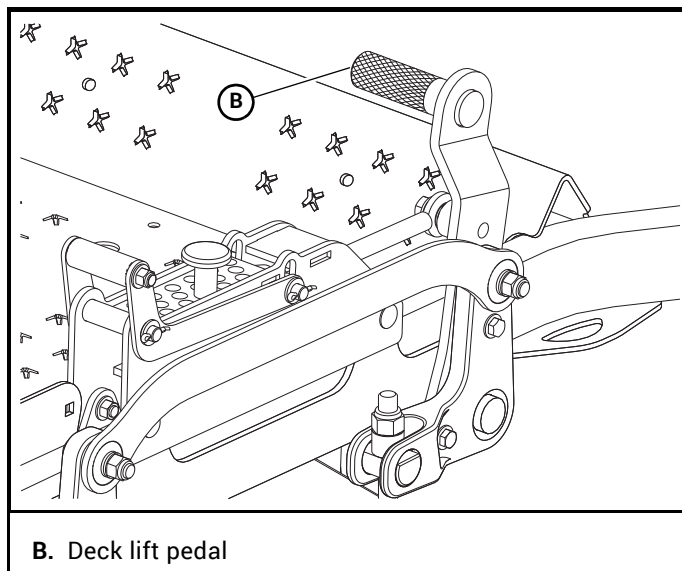

Figure 3-6
- B. **Deck lift pedal (Figure 3-6)** – the deck lift pedal is used to raise or lower the deck. Push on the pedal to raise the deck and then place the adjusting pin into the desired cutting height hole. Release the pedal.